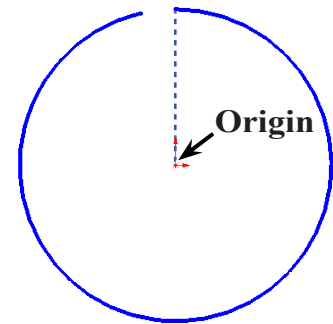

Fig. 2
Step 3. Click **Centerpoint Arc** (S) in the **Arc flyout** on the Sketch toolbar.
Step 4. Sketch a slightly open arc starting from the Origin , **Fig. 2**. To sketch the arc, click the Origin to place the center of the arc. Start the first arc endpoint directly above the Origin, then swing the arc to the right around counterclockwise. Click to place the second endpoint leaving a gap between endpoints.